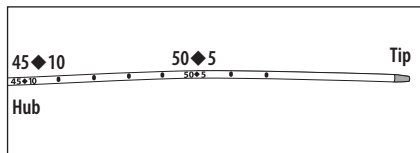

Figure 2
5. The catheter is marked to identify desired amount of catheter to be trimmed and length of catheter that remains (refer to Figure 2).